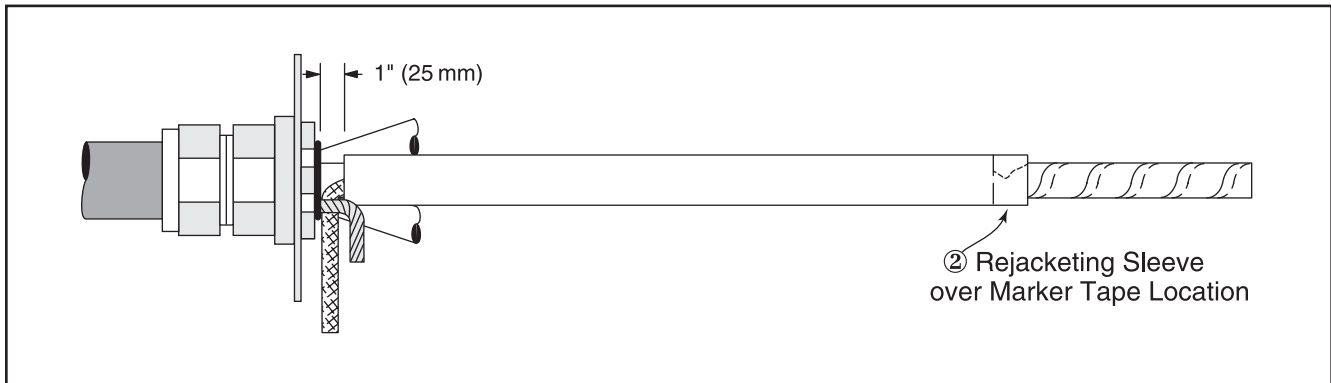

Figure 9
Note: Re-jacketing sleeve upper end should now align with upper edge of previously-installed marker tape (② *Figure 9*).